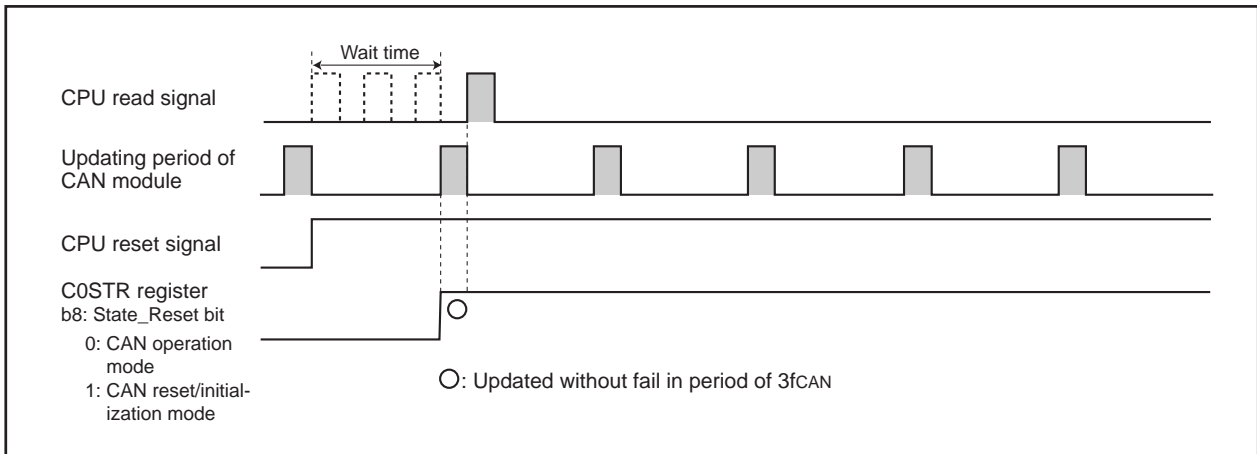

Figure 20.3 With a Wait Time of 3fCAN Before CPU Read
1. There should be a wait time of $3f_{CAN}$ or longer (see Table 20.1) before the CPU reads the C0STR register. (See Figure 20.3)